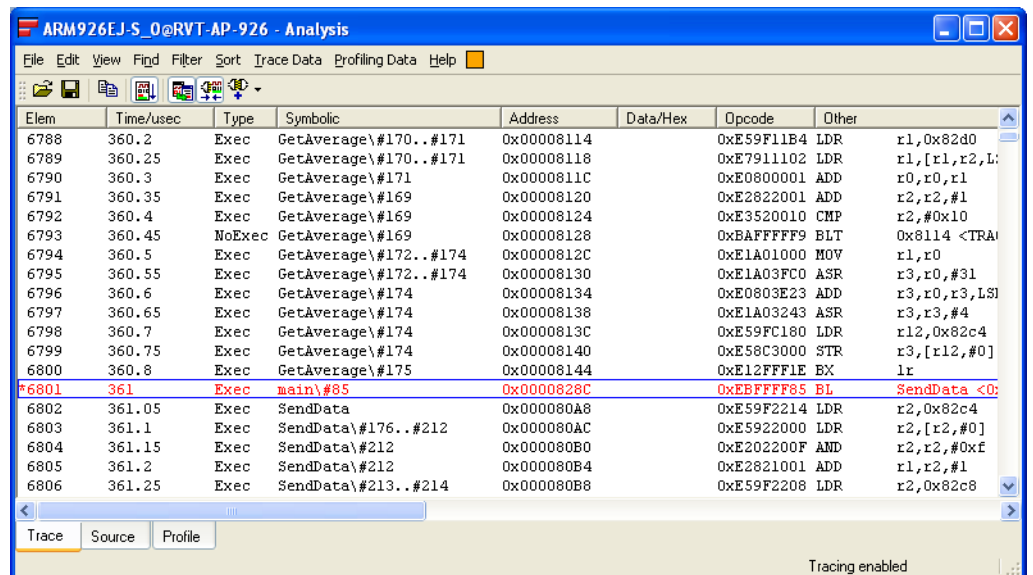

Figure 10-72 Captured trace around the trigger point
7. Scroll down the trace output to see the captured trace after the trigger point. Figure 10-72 shows an example: